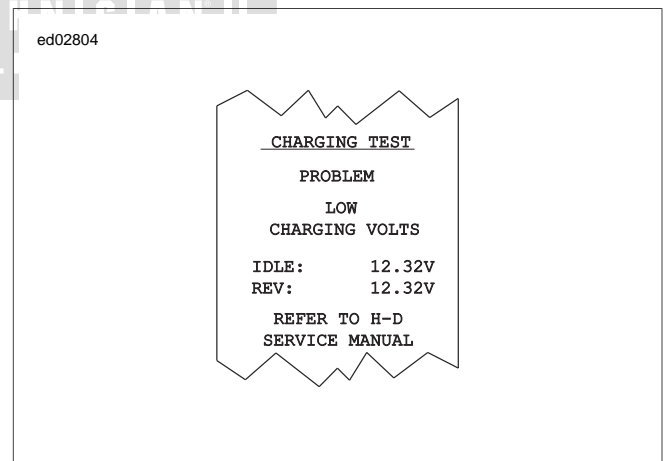

Figure 3-16. Charging System Test Results Printout
3. See Figure 3-16 for an example of the analyzer's printout. The test results include a decision on the charging system's condition and the measured voltage at idle and at 3000 RPM. The analyzer provides a printout including possible test results.